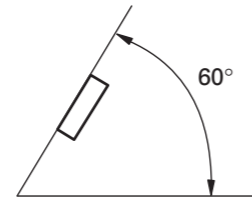

Fig. 1
- If installation angle exceeds 60° from horizontal, the unit might not give its optimum performance. (Fig 1)